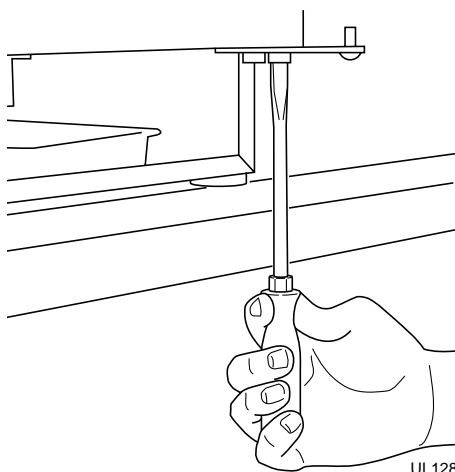

Figure 22
- Remove bottom hinge from cabinet (4 screws) and screws on opposite side of cabinet (see Figure 22).